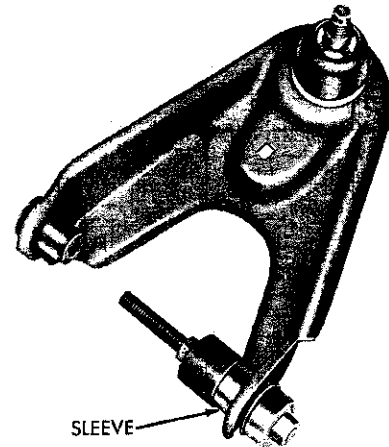

Fig. 14—Installing the Upper Control Arm Bushing Support Sleeve
(1) Position the flange end of the new bushing in Tool C-3710 and then support the control arm squarely.
(2) Force the bushings into the control arm (from outside) until the tapered portion of the bushing seats on the arm.
(3) Remove the tool and install adaptor SP-3827 in place of SP-3233A cup on the tool and install the bushing support sleeve (Fig. 14).
(4) Thread the ball joint into the arm using Tool C-3560 for Models TC-1, TC-2 and TC-3, or Tool C-3561 for TY-1.
(5) Tighten to a minimum of 125 foot-pounds torque on Models TC-1, TC-2 and TC-3 and 150 foot-pounds on Model TY-1 until seated. The ball joint will cut threads into the arm during the tightening operation. After the bushings have been pressed in place, install the upper control arm on the vehicle.